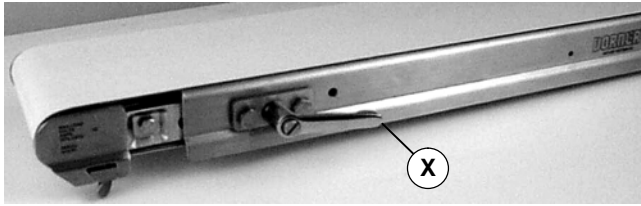

Figure 20
3. Apply counter-clockwise pressure to tension handle (X of Figure 20).
5. Rotate tension handle (X of Figures 20 & 21) clockwise to release conveyor belt tension.
3. Remove two (2) screws (AL of Figure 20). Remove handle assembly (X).